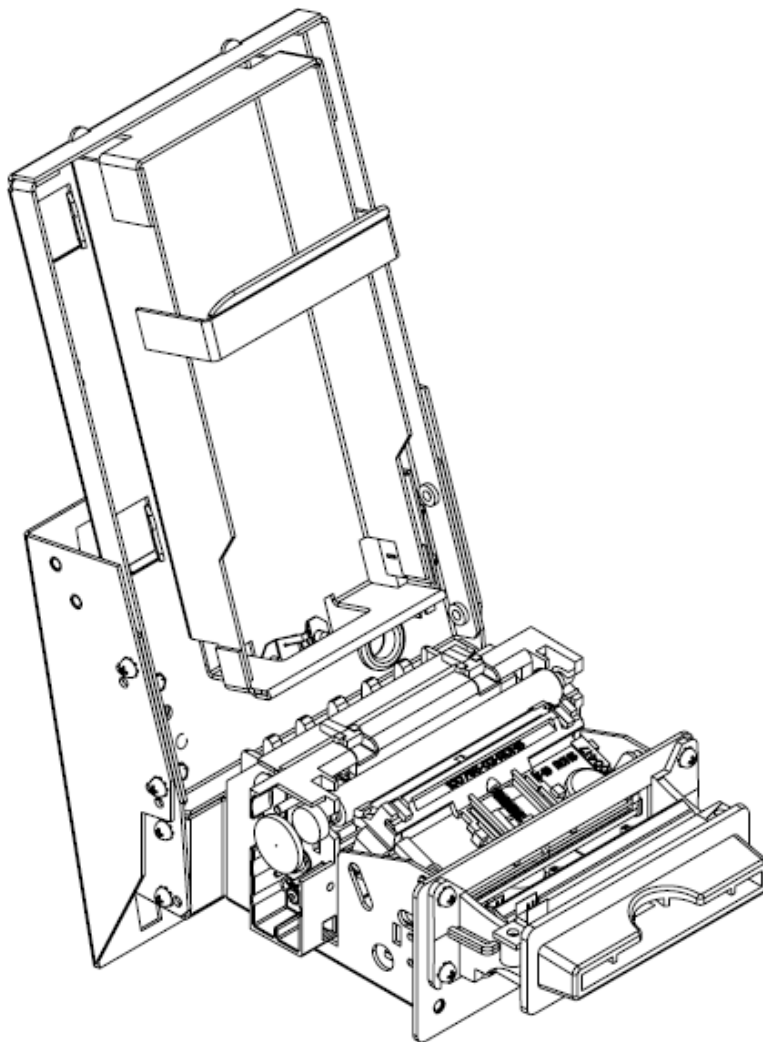

Figure 1: Nanoptix PayCheck Slim Printer
- FIGURE 1: NANOPTIX PAYCHECK SLIM PRINTER 1